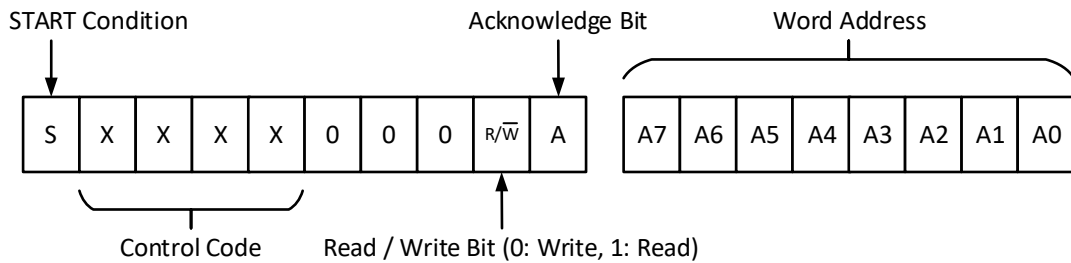

Figure 153. I2C Basic Command Structure
Each command to the I2C serial communications macrocell begins with a 'START' condition. The basic command structure of the I2C protocol is shown in Figure 153. After the 'START' condition (S), the I2C controller sends 7-bit target address followed by the RW bit. The SLG47001/03 allows multiple target addresses by programming the first four bits ('Control Code') of the 7-bit target address. Each bit in the 'Control Code' can be sourced independently from the I2C\_SLA[3:0] (Reg[1467:1464]) register. When the I2C\_SLA0\_SEL (Reg[1468]) and the I2C\_SLA1\_SEL (Reg[1469]) registers are set to '1', Bit0 and Bit1 of the 'Control Code' are defined by the logic levels of GPIO0 and GPIO2 pins respectively. This gives flexibility in the addressing with multiple devices on the same I2C bus. The RW bit selects whether a read (RW = 1) or write (RW = 0) command is requested. The RW bit will be followed by an 'Acknowledge' bit (ACK), which is sent by the target device to indicate successful communication of the first byte of data.